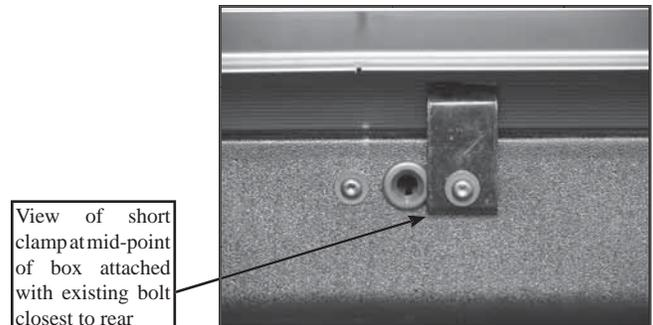

FIGURE 3
3. Near center of box remove existing T-30 bolt (SEE FIGURE 3) and install a short clamp. Re-use existing bolt, add lock washer and flat washer from kit and torque bolt to 75 inch pounds. Adjust clamp up or down as needed to hold rail level.